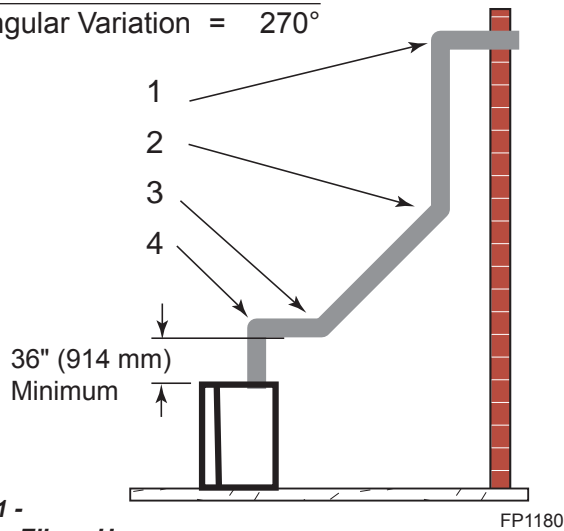

Figure 21 - Maximum Elbow Usage
- The maximum number of elbow degrees in a system is 270°. *Figure 21*